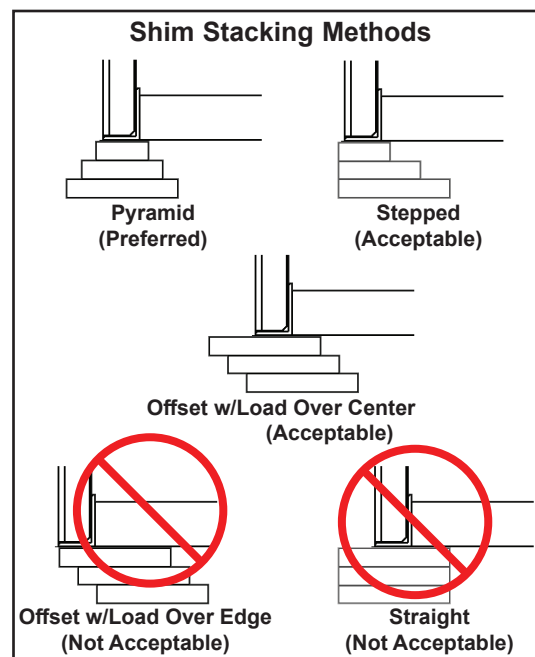

Figure 10
2. Using the results obtained in step 1, create the individual shim stacks on the pit floor at location (**B**). Build each shim stack (**M**) with the top shim having a minimum size of 4" x 4" (101.6 mm x 101.6 mm) and each successive lower shim being larger so the shims can be welded together using a fillet weld. If using offset method, make sure load is over center of shim stack, NOT over the edge. DO NOT use straight method. See Figure 10.